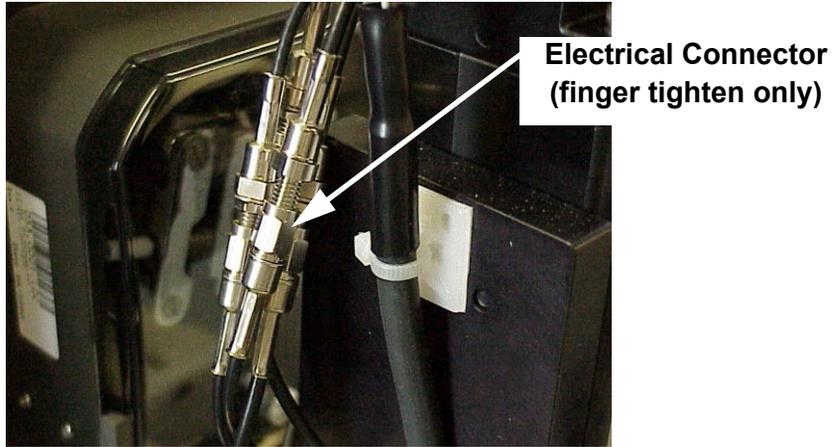

Figure 10-12. Dispenser Electrical Connections.
3. Disconnect the electrical connection from the cable assembly (Figure 10-12) for the defective dispenser assembly that you are removing.